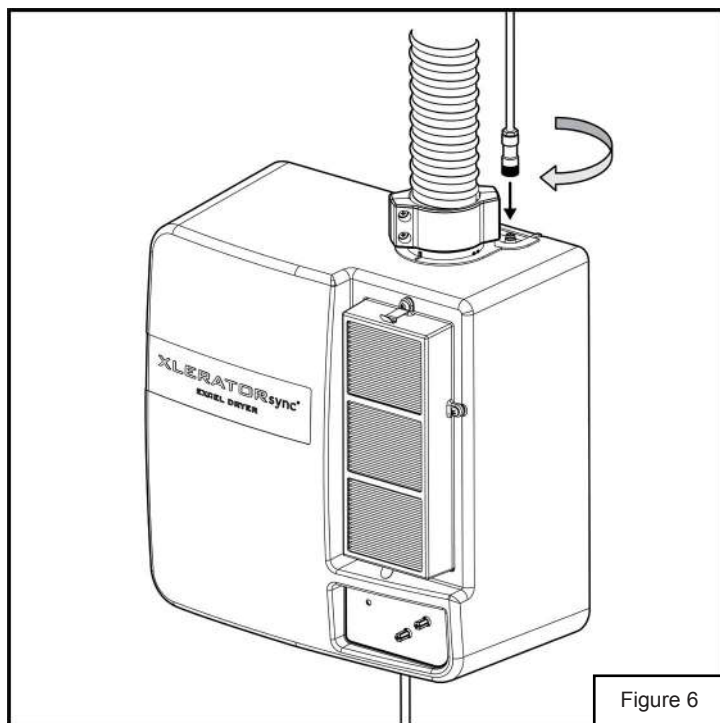

Figure 6
6. Connect the spout optic wire to the dryer box. Simply align the male and female connector halves via the (4) pins and then tighten via the harnesses/connectors threaded section. Neatly route wire so that it does not dangle under the sink. Neatly route the power cord. Once all work is completed, plug power cord into outlet to check for proper operation (Figure 6).